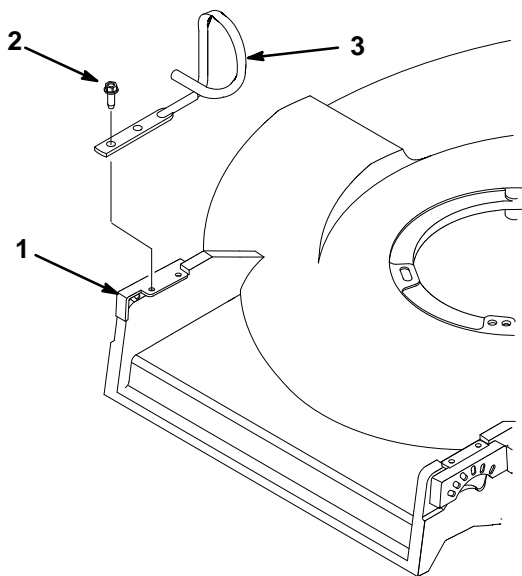

Figure 11
1. Remove (2) hex head screws from right front quadrant (Fig. 11). Leave quadrant in place.
2. Install new primer guard on top of right front quadrant with (2) hex head screws (Fig. 11).